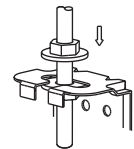

Fig. 5-7
- Locate the air conditioner firmly by wrenching the nuts after having adjusted the body's position well.(refer to fig.5-7)